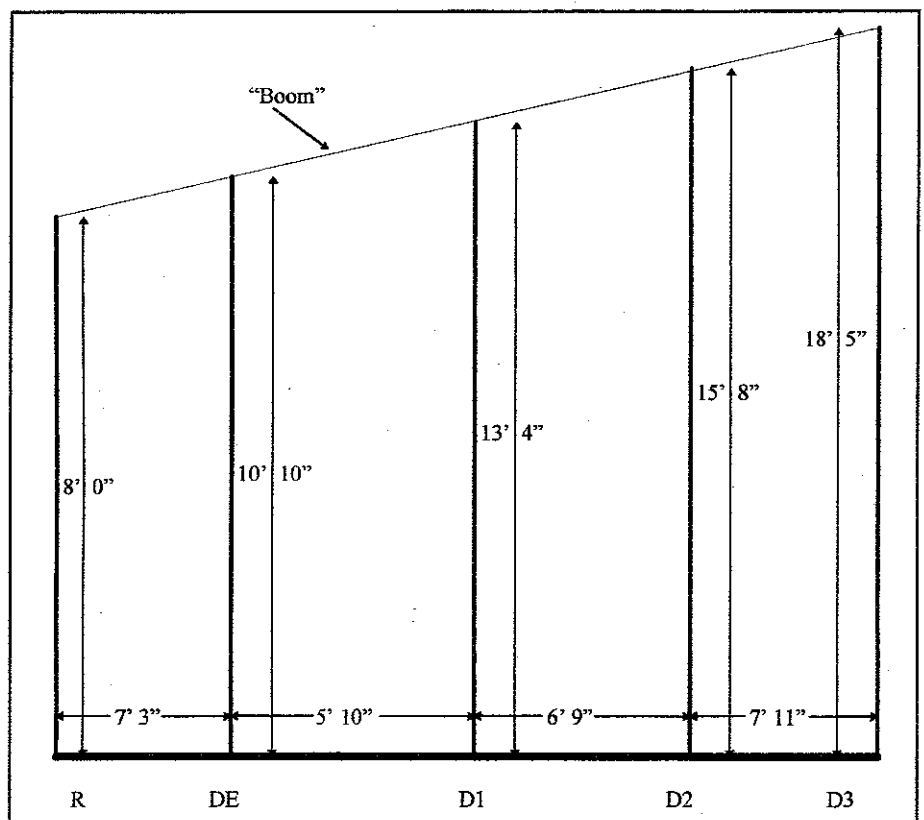
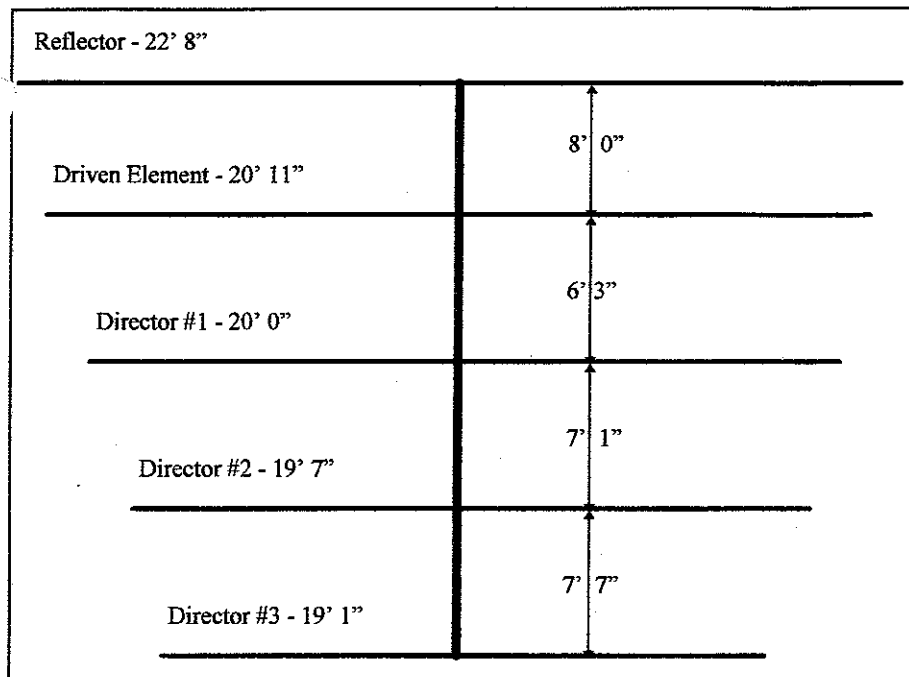

Fig. 1—Side elevation view of the Yard Yagi showing horizontal and vertical placement of the elements. The angle of 20 degrees is not drawn to scale.
Fig. 2-- Top-down view of the Yard Yagi showing element lengths and spacings in feet for 21.010 MHz. The elements and boom are not drawn to scale.
**Element Lengths and Spacings.** A side elevation view of the Yard Yagi showing vertical height and horizontal placement of the five elements is given in fig. 1. A top-down view with element lengths and spacings in feet for 21.010 MHz is shown in fig. 2. The antenna is cut for that low a frequency because I like to work DX CW at the low end of the band and monitor Jupiter emissions at 20.990 MHz.